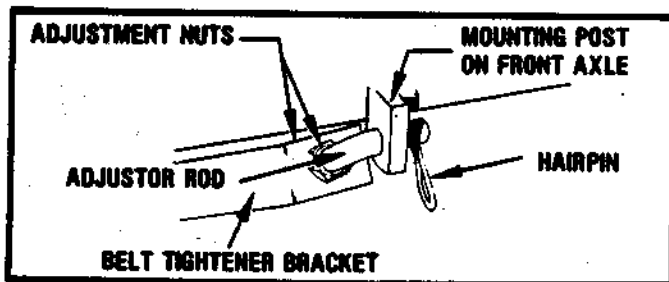
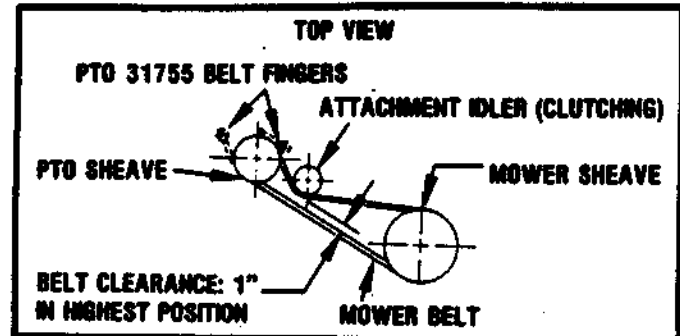

FIGURE 14
FIGURE 19
4. Adjust Mower Belt for proper center distance. See Figure 14 and 19. Adjust nuts on the adjustor rod to move mower pan forward or rearward. Adjust for 1 to 1½ inch clearance between belt as shown in Figure 19 with mower pan in highest position.
4. Raise the mower pan to its mid position and remove the mower belt from the PTO sheave; lower the pan and remove the belt from mower pan. See Figure 19.
2. Raise the mower pan to its center position and install the mower belt around the PTO sheave. See Figure 19.
Adjust mower belt for proper center distance, see Figure 14 and 18. Adjust nuts on adjustor rod to move mower pan forward or rearward. Adjust for 1 inch clearance between belt as shown in Figure 19 with mower pan in highest position.